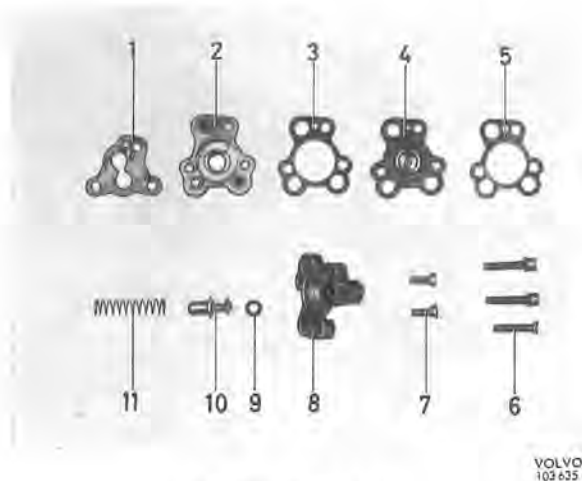

Fig. 2-87. By-pass valve
NOTE. When adjusting, do not press the adjusting screw inwards since the rubber ring (9, Fig. 2-87) sealing between the screw and cover can drop out of position. Check for air leakage by e.g. placing a finger over the rubber ring hole.
The by-pass valve is replaced complete. The valve is removed from the carburettor by screwing out the three screws (6, Fig. 2-87). Clean the gasket surface and fit the new valve with gasket (1). Carry out a function test. Note that the by-pass valve is marked y on the cover.